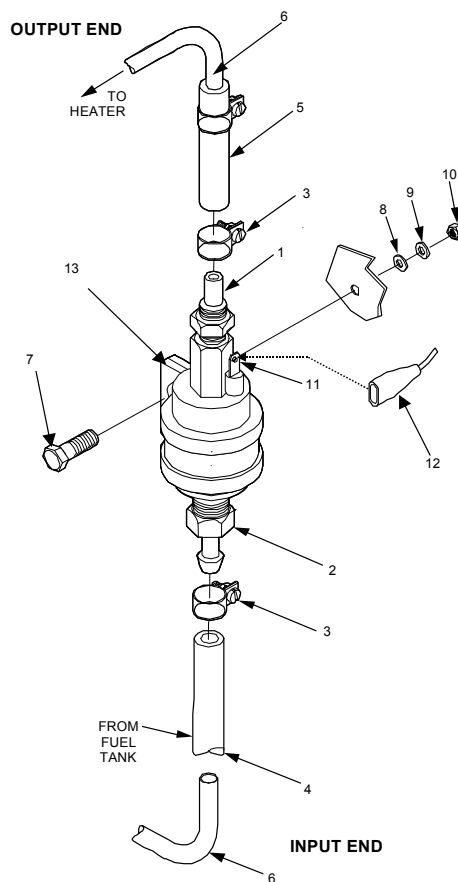

Figure 4-22. Fuel Pump Maintenance.
1. Secure new fuel pump (2) using clamp (13). Secure clamp (13) with bolt (7), flat washer (8), lock washer (9), and nut (10).
2. Referencing top of Figure 4-22, install butt splice (5) and fuel line (6) on output end of fuel pump (1). Secure with screw clamp (3).
3. Referencing bottom of Figure 4-22, install fuel line (6) and butt splice (4) on output end of fuel pump (2). Secure with screw clamp (3).
4. Plug in electrical leads (12) at connector (11) on fuel pump (2).